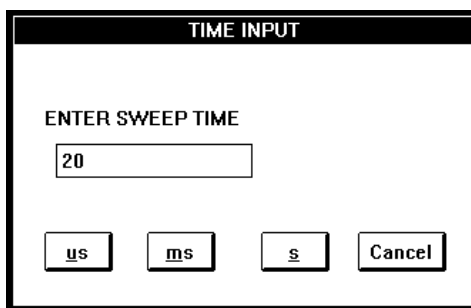

Figure 5-6: Time Input Dialog Box
2. Select **Sweep Time ...** to open the **Time Input** dialog box (Figure 5-6).